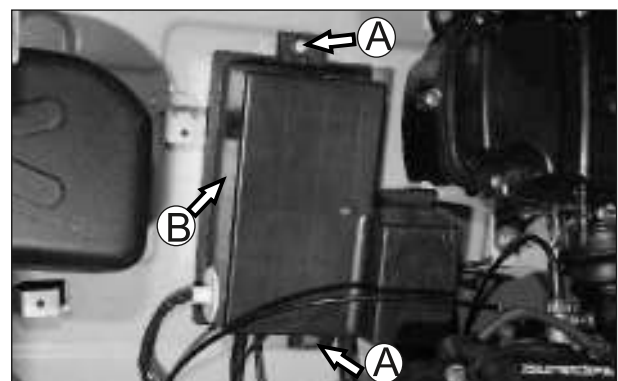

Fig. 5.85
- Loosen and remove 2 nos. hexagonal screw (M6x16) (A) from the cover TCI along with plain washer. (Fig. 5.85)
- Take out the cover TCI (B). (Fig. 5.85)